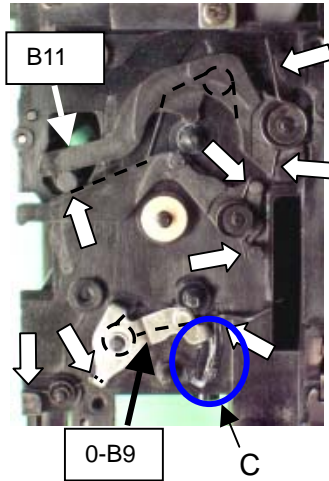

Fig.65
1. Apply G126 to each shafts (7 places) and the place indicated by (C) in Fig.65.